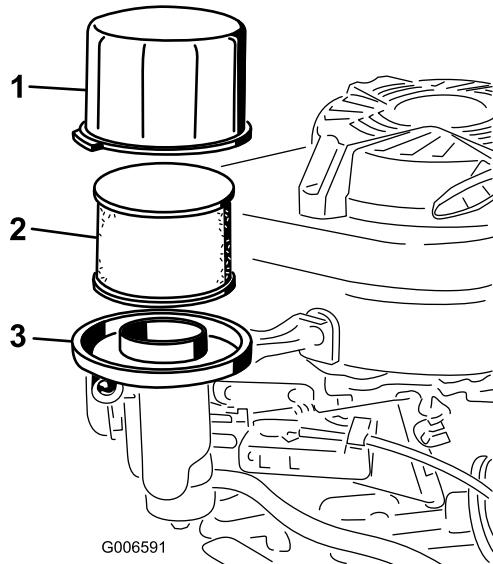

Figure 26
- Remove the cover and clean it thoroughly (Figure 26).
- Remove the foam pre-filter and paper filter (Figure 26).
- Remove the foam pre-filter from the paper filter (Figure 26), and replace the paper filter if it is excessively dirty.
6. Tip the machine, with the air filter up, to drain the oil into the drain pan (Figure 26).